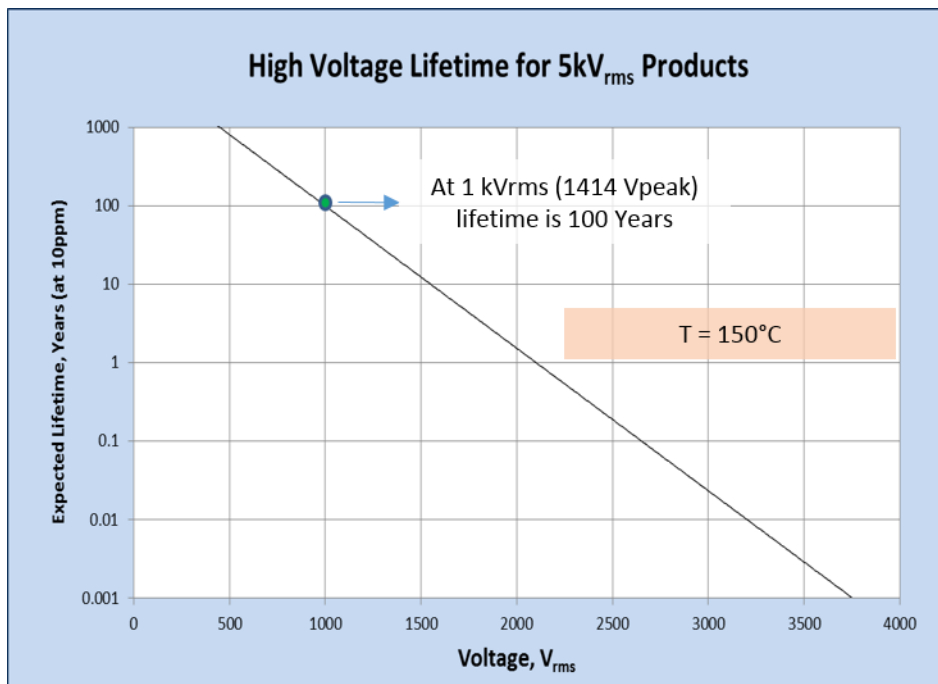

Figure 2.3. Si86xxxD Time-Dependent Dielectric Breakdown
- Added Figure 2.3 Si86xxxD Time-Dependent Dielectric Breakdown on page 6.